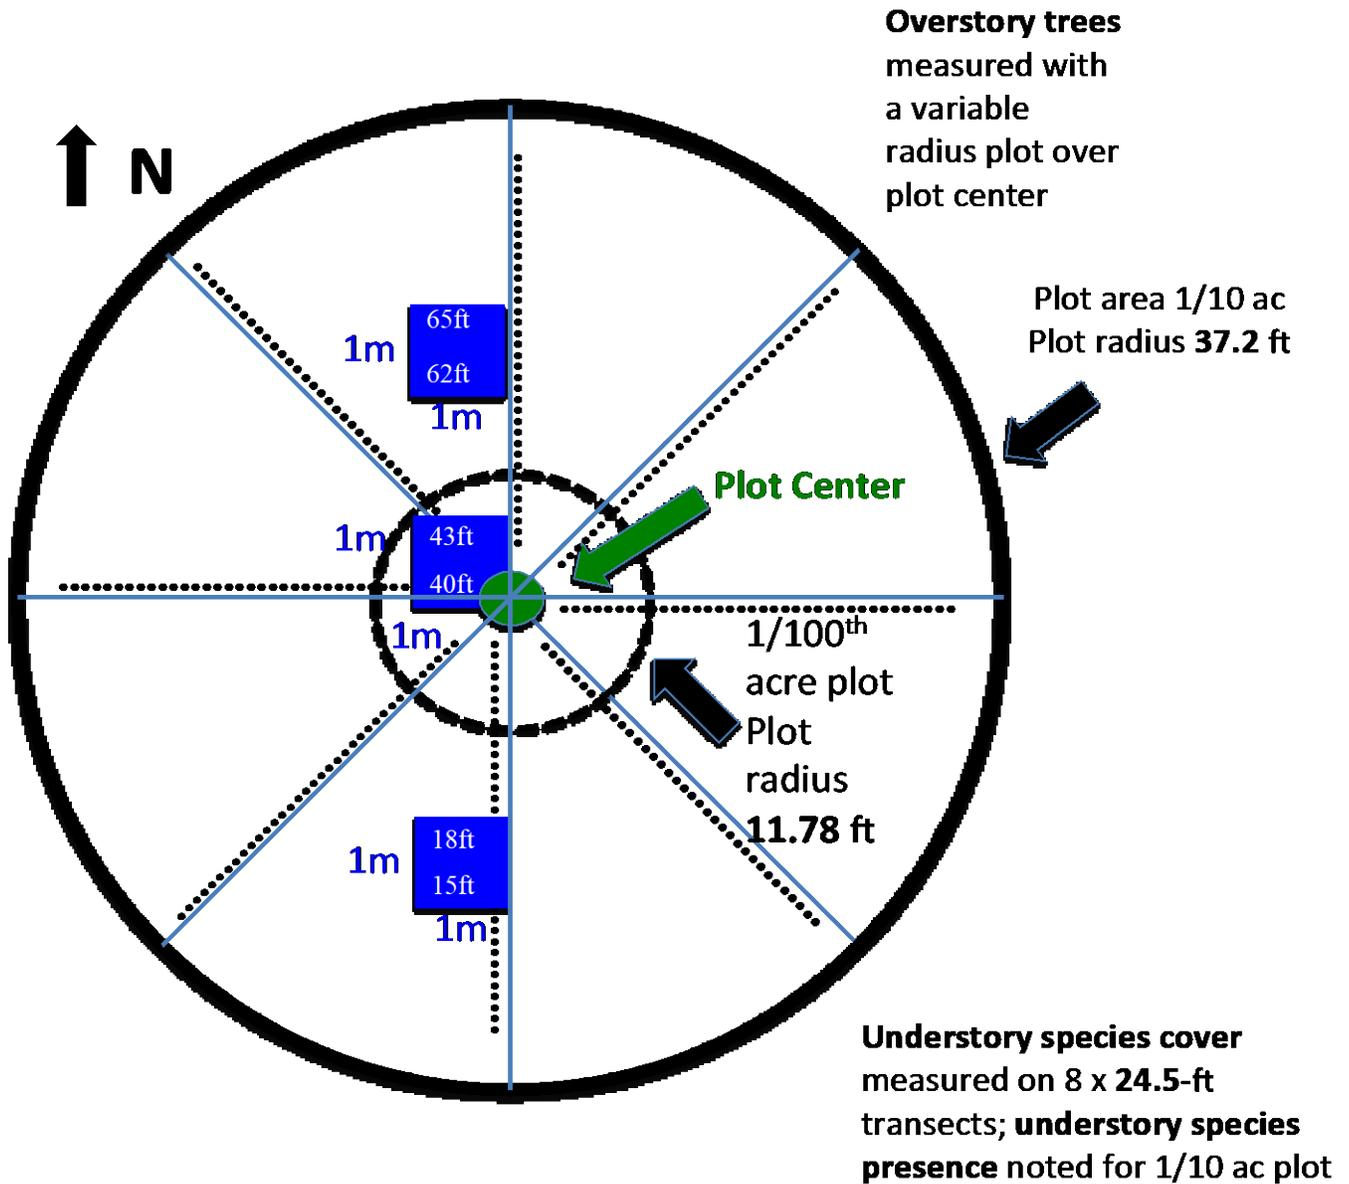

Figure 1. Diagram of the CFRI Forest Restoration and Fire Mitigation Effectiveness Assessment sample plot.
3. Each of the three 1m2 Sample frames are placed to the left (west) of the north-south transect as depicted below. The frames should be located adjacent to the 15 – 18 foot mark on the tape (25 feet south of the center), at the plot center (40 – 43 foot marks), and adjacent to the 62 – 65 foot marks (22 feet north or center, refer to Figure 1). To avoid trampling vegetation and woody fuels, walk on the right side of the transect as much as possible.